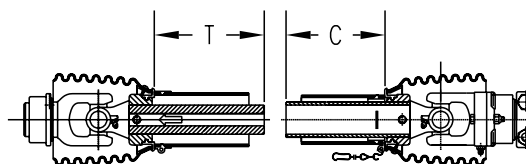

FIG. 4-16
2. Pull apart PTO telescoping shaft ends and measure lengths "T" & "C" (Fig. 4-16).